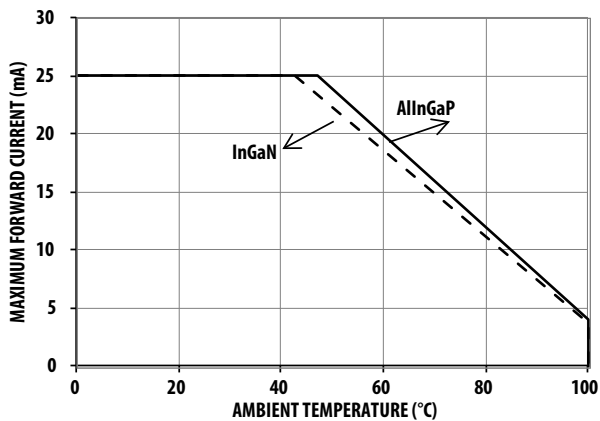
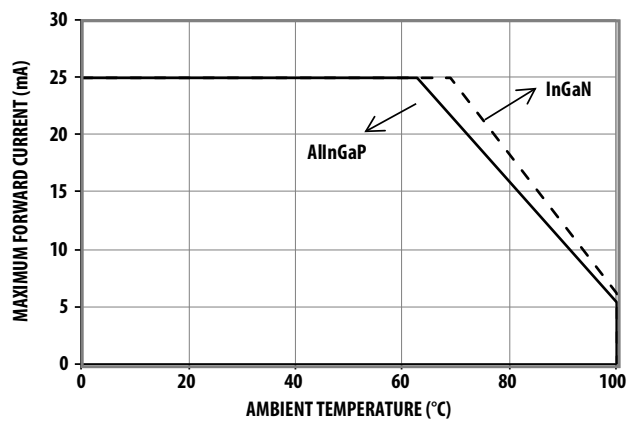

Figure 4a. Maximum forward current vs. ambient temperature. (3 chips)
Figure 4b. Maximum forward current vs. ambient temperature. (single chip)
1. Derate linearly as shown in Figure 4a and Figure 4b